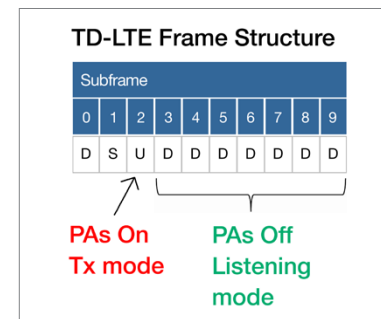

Figure 3: 4G data link transfers only require PA on during transmit period.
4G LTE Gateways/Cells using TD-LTE require the power amplifier (PA) to be operational only during the transmit mode. Typical PA efficiency even at the highest transmit power levels is below 40% due to linearity requirements. By employing dynamic, high-speed control, the PA power can be disabled during the listening mode (Figure 3), thus eliminating energy waste. The AS19xx devices can enable/disable each rail in 100ns – fast enough to permit this function without external control.